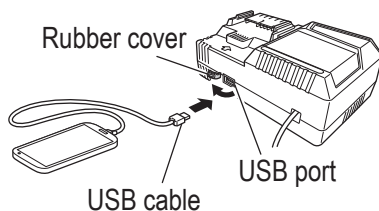

Fig. 25
2. Connect the USB cable. (Fig. 25)